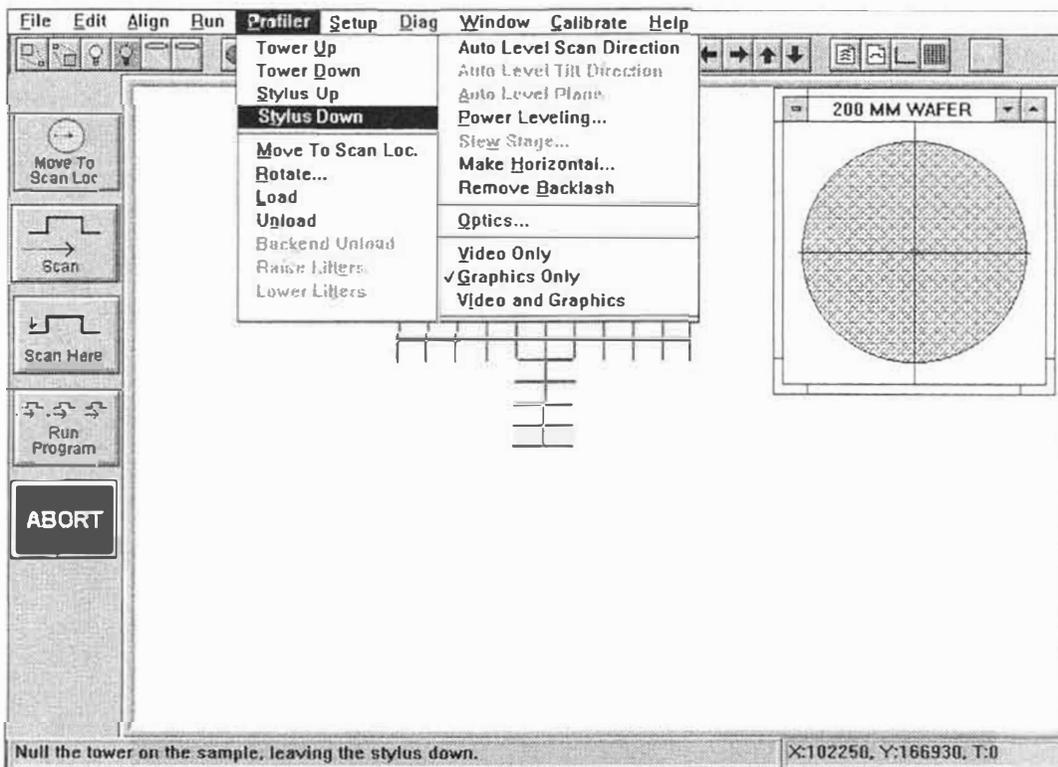

Figure 3-9. Stylus Down Mode
1. The stylus can be lowered by using either the toolbar icon buttons or the Profiler Menu. To access the Profiler Menu, click-on "Profiler" from the System Menu Bar and the Profiler Menu will be displayed (see Figure 3-9). The "Tower Up" and "Tower Down" options raise and lower the entire tower assembly which includes the video camera, illuminator and stylus mechanism. The "Stylus Up" and "Stylus Down" options raises and lowers the stylus slightly.